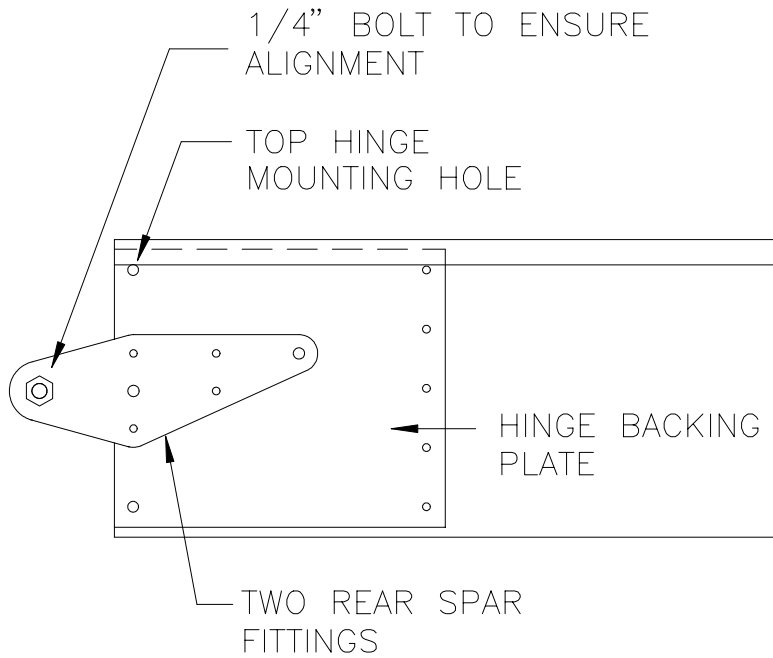

Figure 8.7.1
- 2) Cleco the two Rear Spar Fittings (W-124) to the root end of the Rear Spar and Hinge Backing Plate. Bolt the two fittings together with a 1/4" bolt to ensure alignment. See Figure 8.7.1.